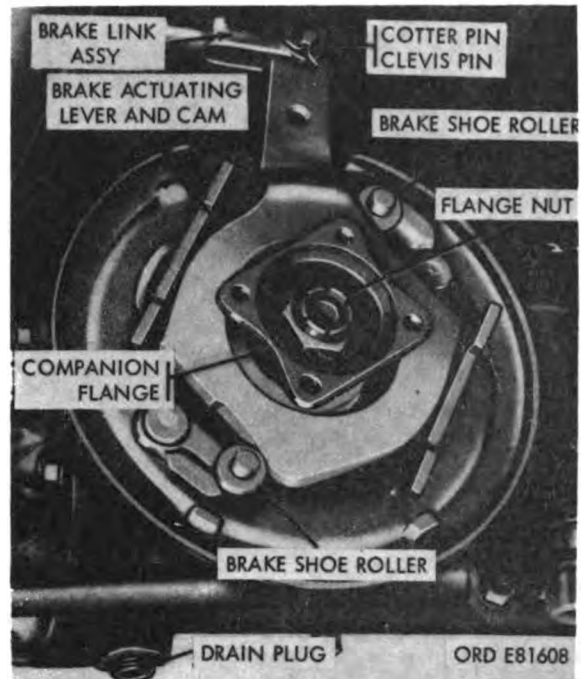

Figure 2-71. Disconnecting or connecting brake link assembly.
- (6) Remove two brakeshoe rollers (fig. 2-71).
- (7) Remove cotter pin and clevis pin (fig. 2-71). Disconnect brake link assembly from brake actuating lever and cam.
- (8) Drain front axle lubricant (fig. 2-71).
- (9) Remove companion flange self-locking nut (fig. 2-71).
- (10) Remove companion flange (fig. 2-71).